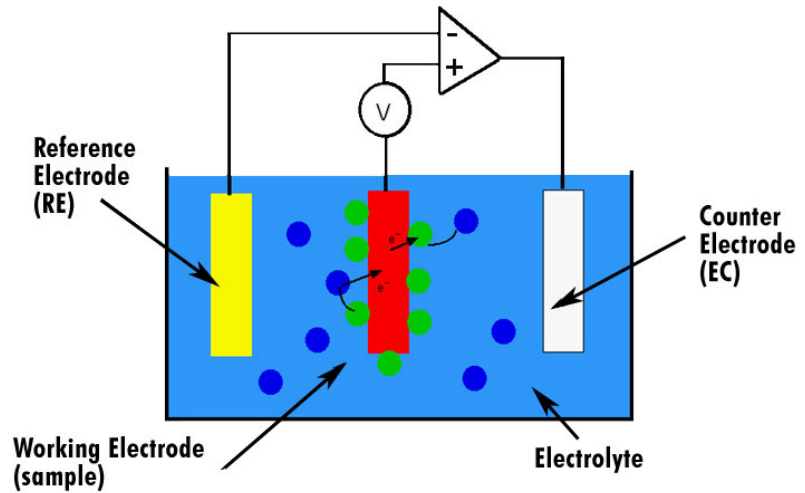
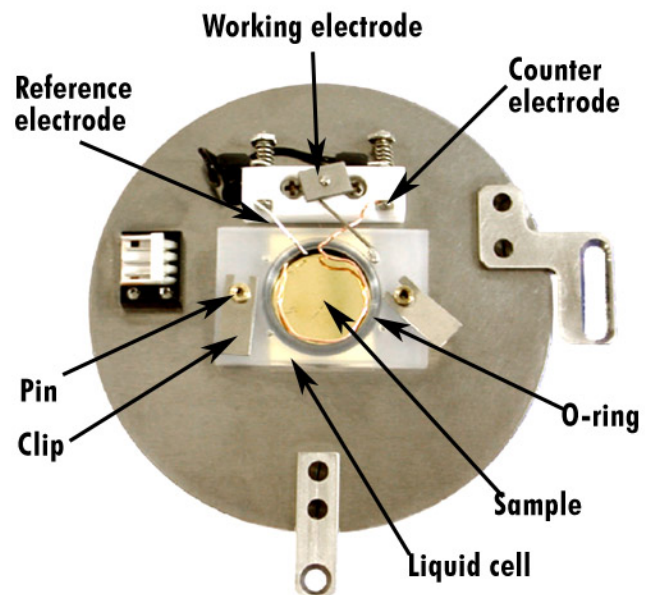

Figure 197 Electrochemistry experiment schematic
Figure 198 Electrochemistry experimental setup using liquid cell
Figure 197 shows a typical electrochemistry setup, while Figure 198 shows that same setup created with the 5500 SPM liquid cell. Note that
The liquid cell, described earlier in this manual, enables imaging in a liquid (Figure 197). The cell is 15 mm (0.59 in) in diameter and seals over the sample with an o-ring. The sample surface must be very flat and larger than the diameter of the cell to avoid leakage.
It is recommended that the assembly procedure be carried out in a laminar flow hood, glove box or other clean environment. The work surface should be well cleaned prior to assembling, and gloves should be worn to prevent contaminating the electrodes and liquid cell. Refer to Figure 198 for a view of the components described below.
- 8 Insert the counter and reference electrodes into the sample plate block (Figure 198). Push the spring-loaded clamp forward from behind, insert the electrode and release the clamp.